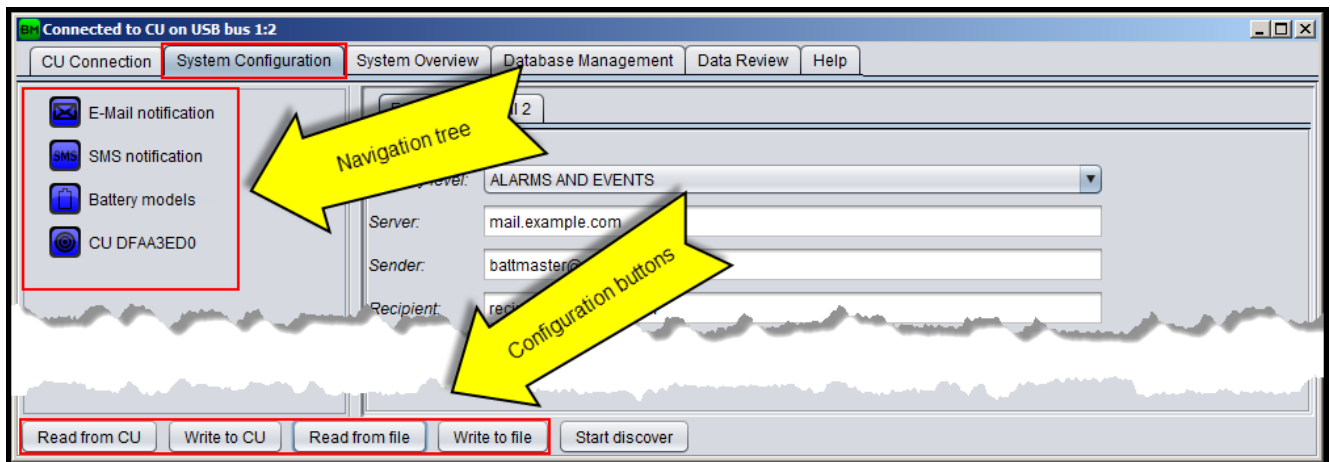

Figure 20: System setup
- Open the “System configuration” tab as shown on Figure 20.